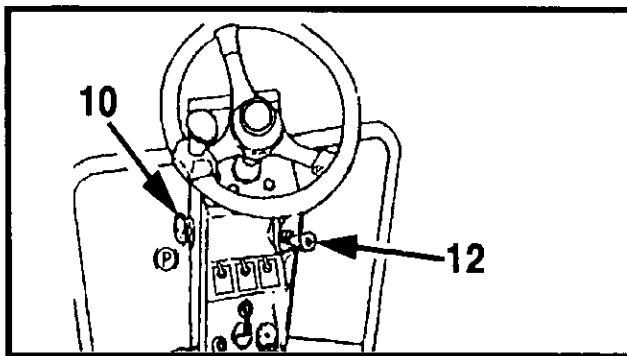

Figure 5-15 Parking Brake Switch
1. With the engine running, press in the parking brake control switch (10, Figure 5-15) to apply brakes.